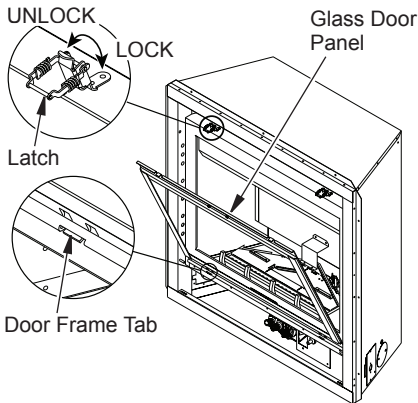

Figure 45 - Removing/Replacing Glass Door
3. Hold the glass frame with one hand and with the other hand unlock the two door latches found on top of the firebox to release tension on the door frame (see Figure 45, page 27).
5. Lift the lower frame tabs out from the positioning slots found on the lower frame retaining bracket (see Figure 45, page 27).